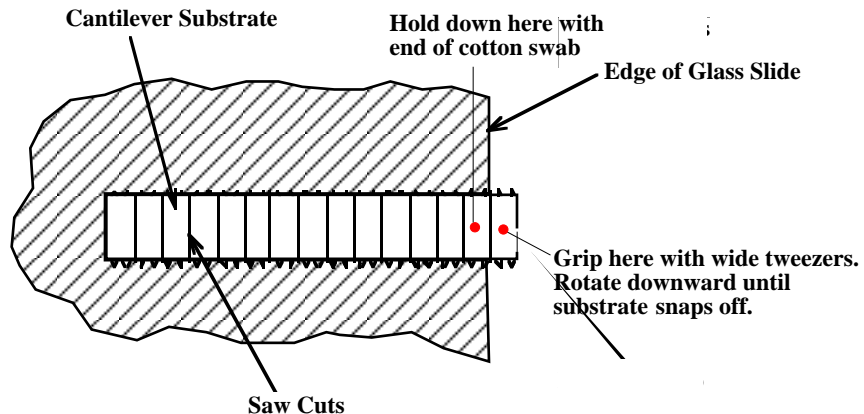

Figure 4.8. Substrate break-off.
4. Handling the strip by its ends, place it on a glass slide (taped down to the edge of a table) with the substrate or spacer piece to be removed, hanging over the edge, as shown in Figure 4.8. The saw cut should be approximately on the edge of the slide. While holding down the next substrate on the strip with the wooden end of a cotton swab, grip the overhanging piece with a pair of wide tweezers and rotate downward. It should pop right off. Repeat this process until as many cantilever substrates as required have been removed.